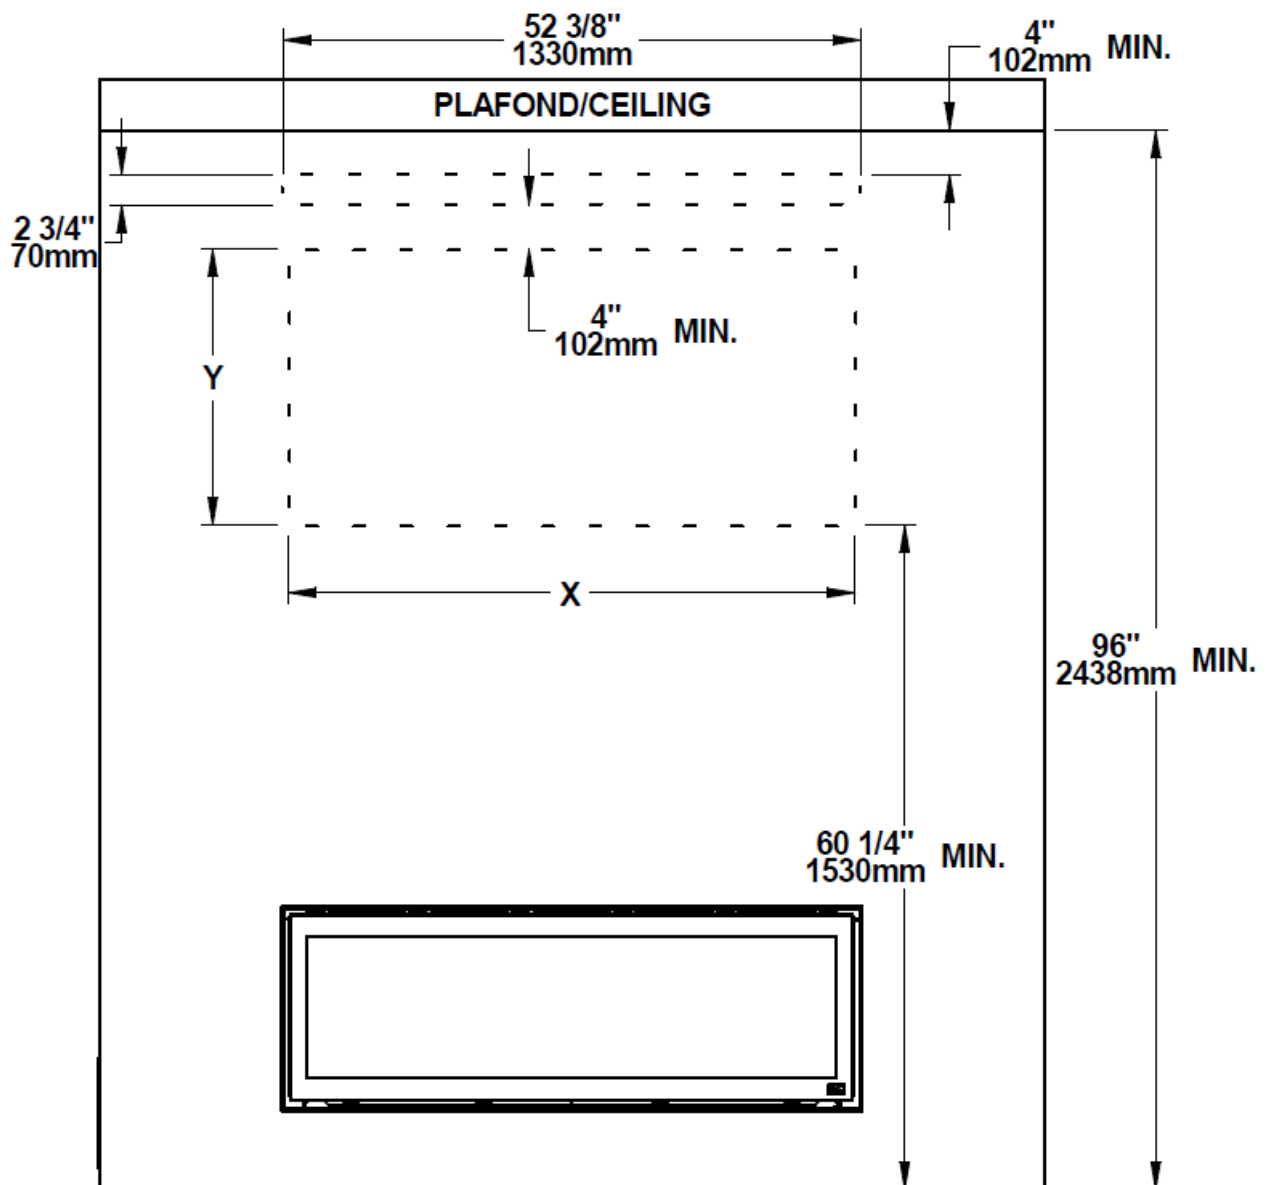

Figure 8 : Hot air vent kit positioning with television recess
Determine the location of the hot air vent (**A**) and of the recess above the fireplace as shown in Figure 8 and 9. The width (X) and height (Y) of the recess may change depending on the installation. The framing, the recess and entire front of the fireplace enclosure shall be made of **non-combustible** material.